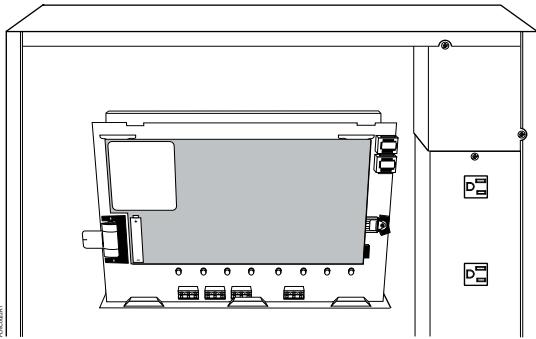

Figure 4. Module Installation.
2. With the LEDs and FLN connectors facing you, slide the bottom of the Board at a 10° angle into the bottom guides on the board bracket (Figure 4).